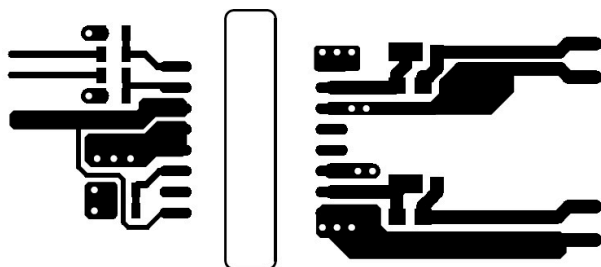

Figure 10-2. Top Layer Traces and Copper
- Increasing the PCB copper connecting to VDDB, VSSA and VSSB pins is recommended, with priority on maximizing the connection to VSSA and VSSB (see Figure 10-2 and Figure 10-3). However, high voltage PCB considerations mentioned above must be maintained.
Figure 10-2 and Figure 10-3 shows top and bottom layer traces and copper.